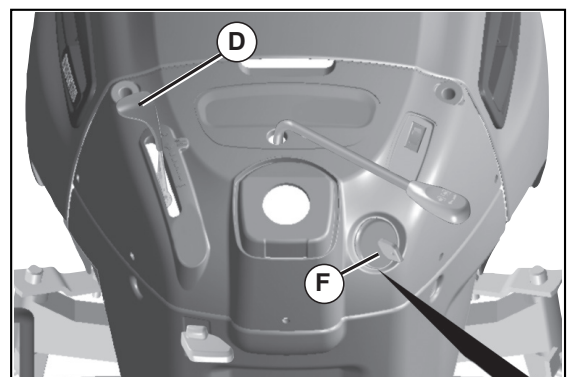

Fig. 8
### TO USE THROTTLE CONTROL (D) (See Fig. 8)